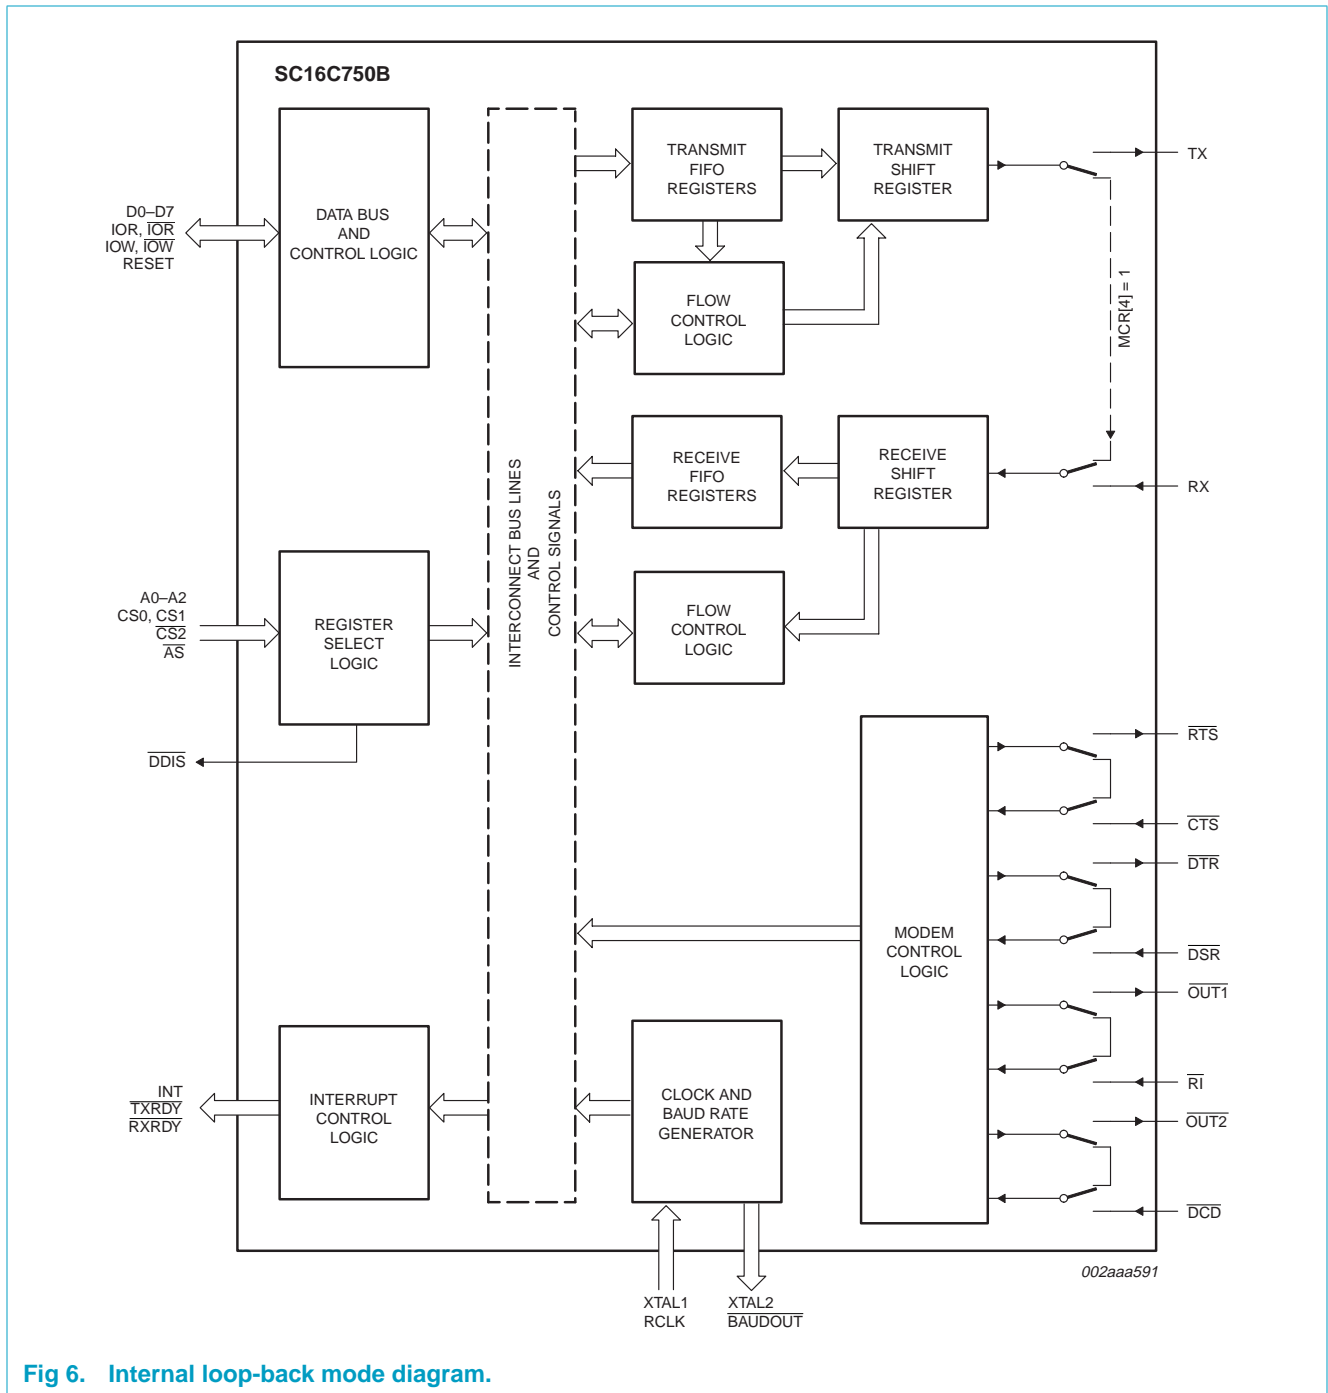

Fig 6. Internal loop-back mode diagram.
The internal loop-back capability allows on-board diagnostics. In the loop-back mode, the normal modem interface pins are disconnected and reconfigured for loop-back internally. MCR[0:3] register bits are used for controlling loop-back diagnostic testing. In the loop-back mode, OUT1 and OUT2 in the MCR register (bits 2-3) control the modem \overline{RI} and \overline{DCD} inputs, respectively. MCR signals \overline{DTR} and \overline{RTS} (bits 0-1) are used to control the modem \overline{DSR} and \overline{CTS} inputs, respectively. The transmitter output (TX) and the receiver input (RX) are disconnected from their associated interface pins, and instead are connected together internally (see Figure 6). The \overline{CTS} , \overline{DSR} , \overline{DCD} , and \overline{RI} are disconnected from their normal modem control input pins, and instead are connected internally to \overline{RTS} , \overline{DTR} , OUT2 and OUT1. Loop-back test data is entered into the transmit holding register via the user data bus interface, D0-D7. The transmit UART serializes the data and passes the serial data to the receive UART via the internal loop-back connection. The receive UART converts the serial data back into parallel data that is then made available at the user data interface D0-D7. The user optionally compares the received data to the initial transmitted data for verifying error-free operation of the UART TX/RX circuits.